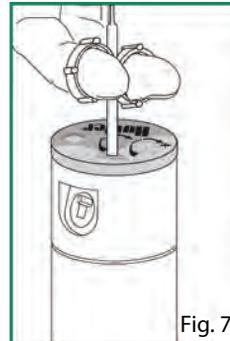

Fig. 7
1. Insert the plastic key end of the Hunter® wrench into the lifting socket of the sprinkler and turn 90°. Pull the riser up to gain access to the nozzle socket (Fig. 7).